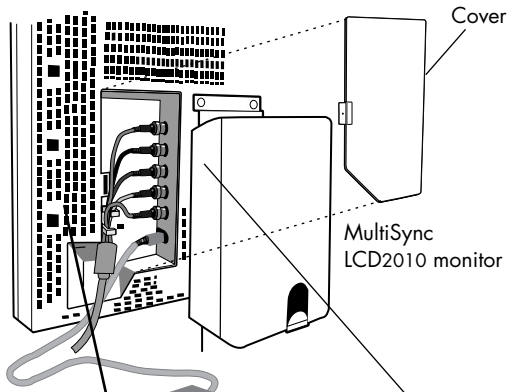
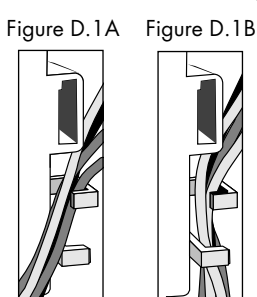

Figure D.1
Figure D.1A
**For the MultiSync LCD2010:** Remove connector cover on back of monitor (**Figure D.1**). Connect the BNC cables and AC adapter cable to the appropriate connectors on the back of the monitor. Connect the red BNC cable to the BNC connector on the monitor labeled R, the green BNC cable to the BNC connector labeled G/Sync, the blue BNC cable to the BNC connector labeled B. If you have a fourth BNC connector (Composite Sync), connect it to the BNC connector on the monitor labeled H/CS. If you have a fifth BNC connector (Vertical Sync), connect it to the BNC connector on the monitor labeled VS (**Figure D.1**). Place the 15-pin VGA to BNC Cable under Clip A (**Figure D.1A**). Then place the 15-pin VGA to BNC cable under Clip B (**Figure D.1B**) Replace connector cover.